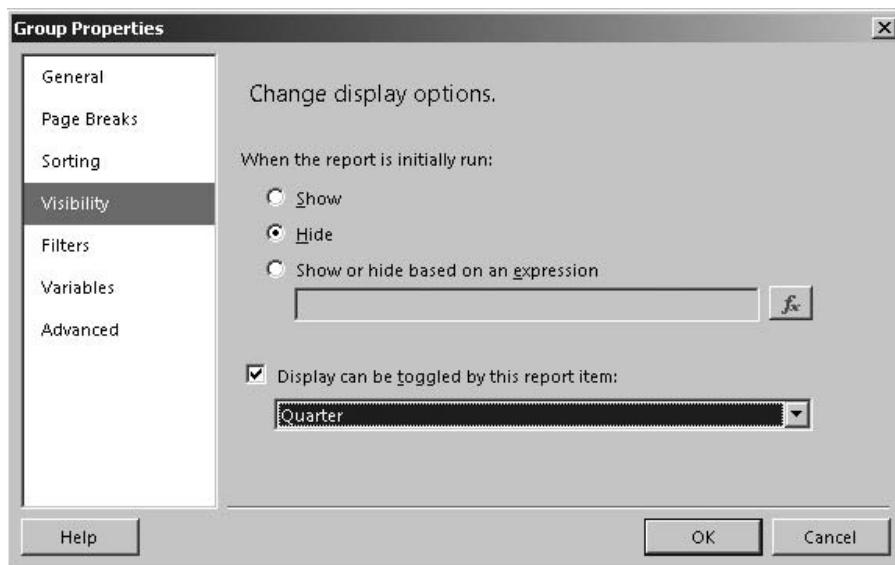

Figure 16-27 The Visibility page of the Group Properties dialog box configured for drilldown.
43. Select Quarter from the drop-down list. The Group Properties dialog box appears as shown in Figure 16-27.